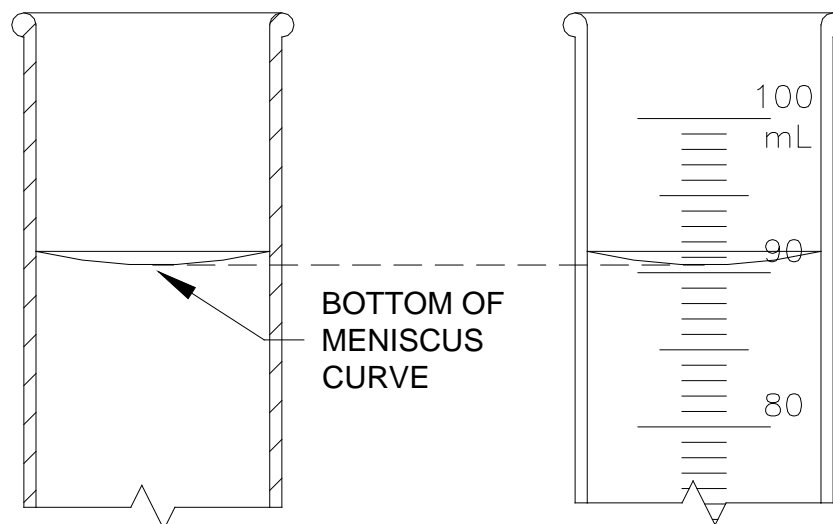

Figure 2 - Meniscus Curve.
- Surface tension causes the fluid to curve into a meniscus (See Figure 2). Measure the volume at the bottom of the meniscus curve as shown.